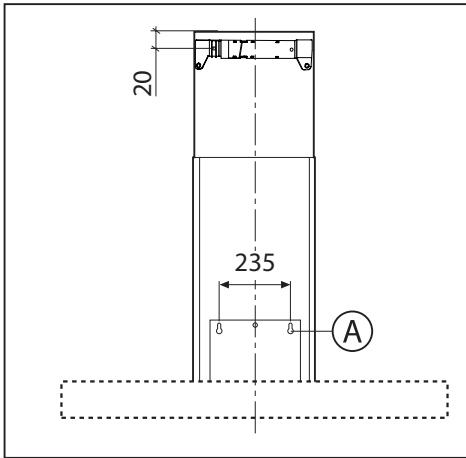
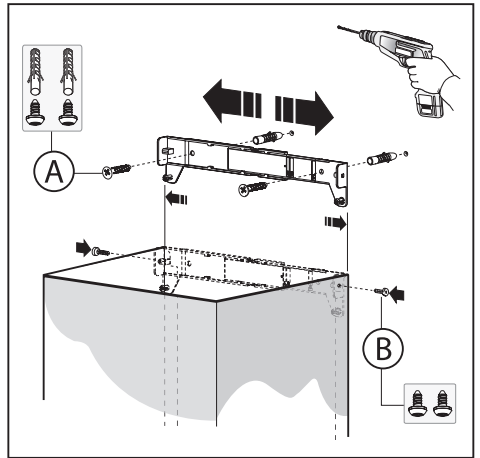
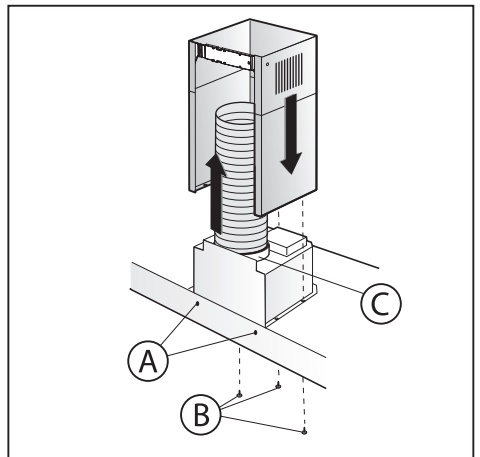

Fig.2
Fig.3
Fig.5
- Drill the holes **A** respecting the distances indicated (Fig.2).
- When the appliance has been adjusted, definitely fix the hood using the screws **A** (Fig.5).
- Adjust the width of the support bracket of the upper flue (Fig.3).
- Then fix it to the ceiling using the screws **A** (Fig.3) in such a way that it is in line with your hood and respecting the distance from the ceiling indicated in Fig.2.
- Connect the flange **C** to the air exhaust hole using a connection pipe (Fig.5).
- Fix the lower flue to the hood using the screws **B** provided (Fig.5), extract the upper flue up to the bracket and fix it with the screws **B** (Fig.3).